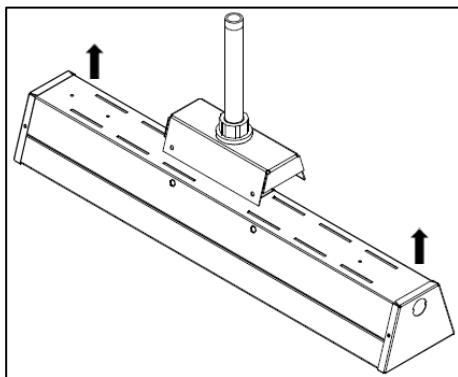

Figure 10
1. Attach the $\frac{3}{4}$ " pendant mount assembly shown in Figure 9 to the $\frac{3}{4}$ " threaded pendant rod shown in Figure 10.